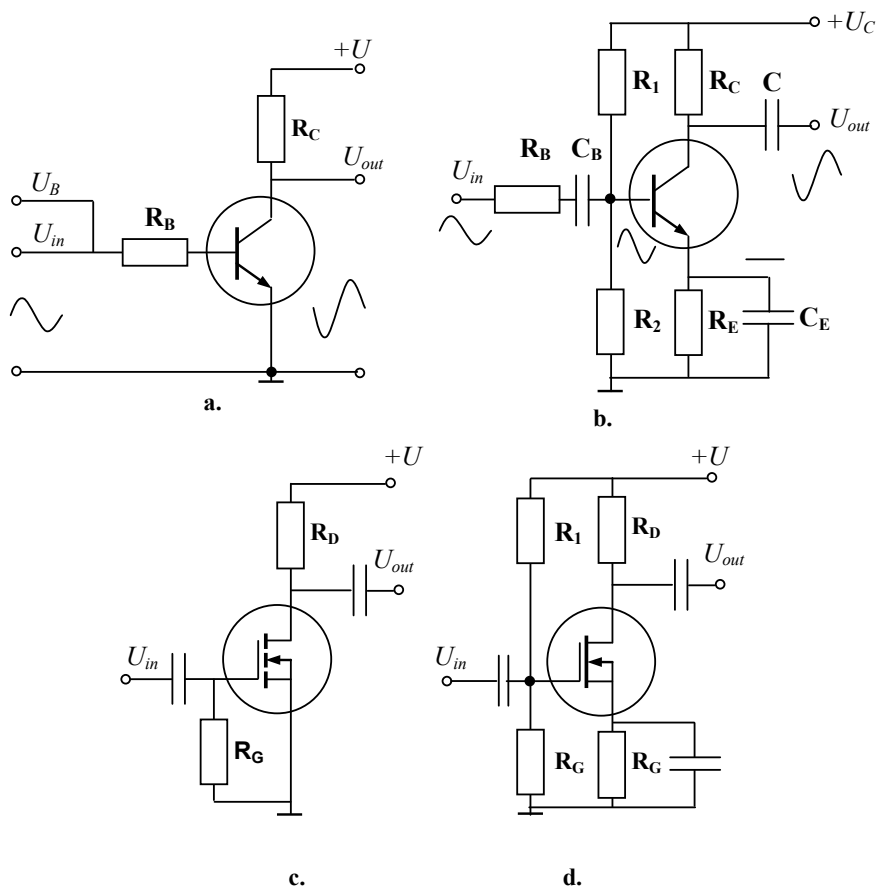

Fig. 2.11
**CE current amplifiers.** Fig. 2.11,a displays a simple transistor linear amplifier. Because the emitter is at the ac ground, it is the CE amplifier. In this circuit, the ac input signal  $U_{in}$  is added to the dc biasing voltage  $U_b$ . They produce a voltage drop in the base resistor  $R_b$ . As a result, the total base voltage changes in accordance with the input signal. Since the base voltage changes, the collector current changes also, as well as the voltage in the resistor  $R_c$  and in the load supplied by  $U_{out}$ . The amplified ac collector voltage is equivalent to being 180 degrees out of phase with the input voltage.
A transistor *current amplifier* used in practice is presented in Fig. 2.11,b. Here, variations in both resistor voltages (base and collector) and transistor currents take place similarly to as in the previous circuit. The only quantity that does not change is the emitter voltage because the emitter is at ac ground.  $U_c$  is the dc supply voltage that sets the Q point and  $U_{in}$  is the ac voltage that should be amplified. Except for external ac source, the dc biasing current enters the base circuit through the divider  $R_1R_2$ . Its value has to be higher than the maximum amplitude of  $U_{in}$ . In such a way,  $U_{in}$  will be amplified without clipping.
The figures below illustrate the current amplifiers with  $n$ -channel enhancement-mode MOSFET (Fig. 2.11,c) and depletion-mode MOSFET (Fig. 2.11,d). Each circuit has the common source, and the input voltage applied to the gate changes the output voltage signal. MOSFETs have very high input impedance at low frequencies (hundreds teraohms) whereas the BJTs input impedance is tens of megohms. These impedances drop down with the frequency growing.